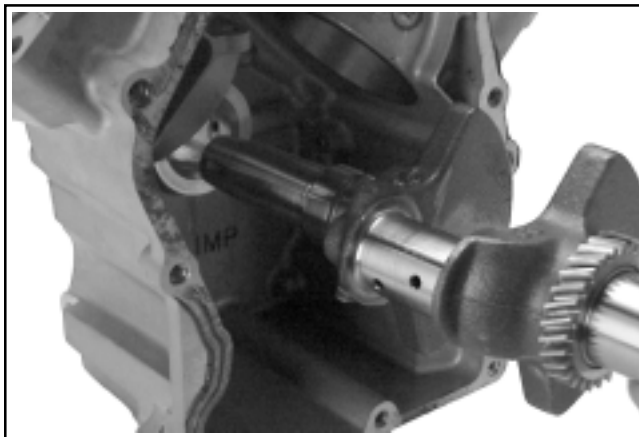

**Figure 9-78. Removing Connecting Rod and Piston Assembly.**
2. Carefully remove the connecting rod and piston assembly from the cylinder bore. See Figure 9-78.